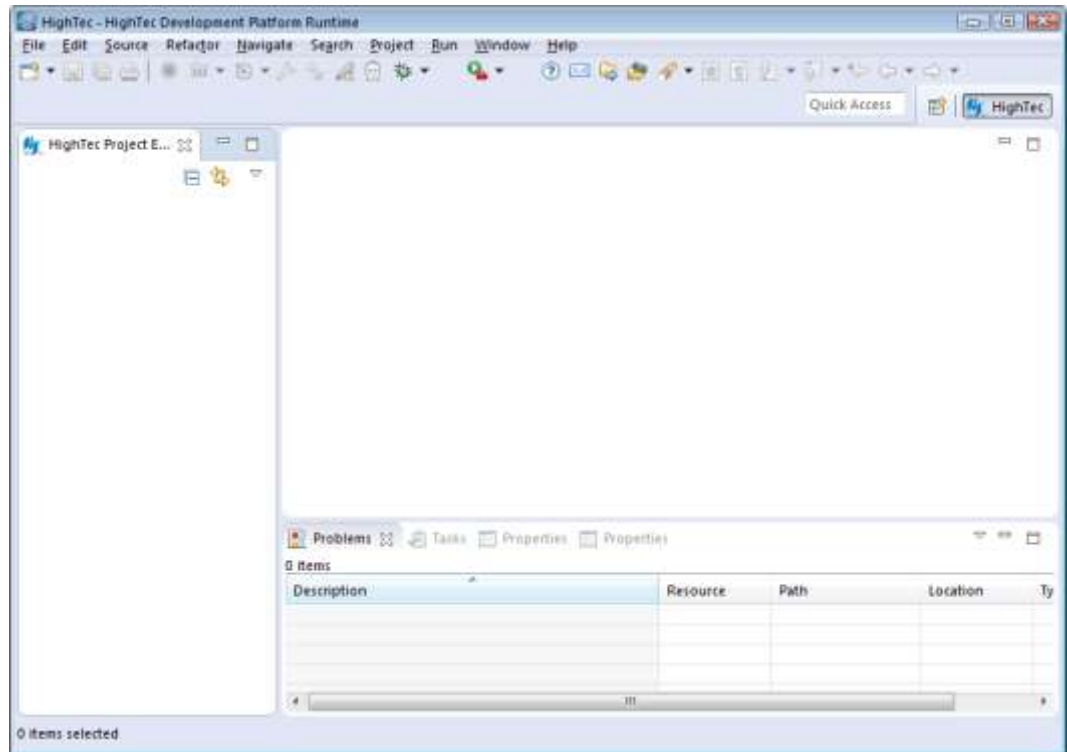

Figure 10 HighTec perspective
9. Click the **Workbench** on the right side of the view to go to the workbench. Assuming first start of eclipse, **HighTec perspective** (Figure 10) appears, otherwise last saved workbench layout.